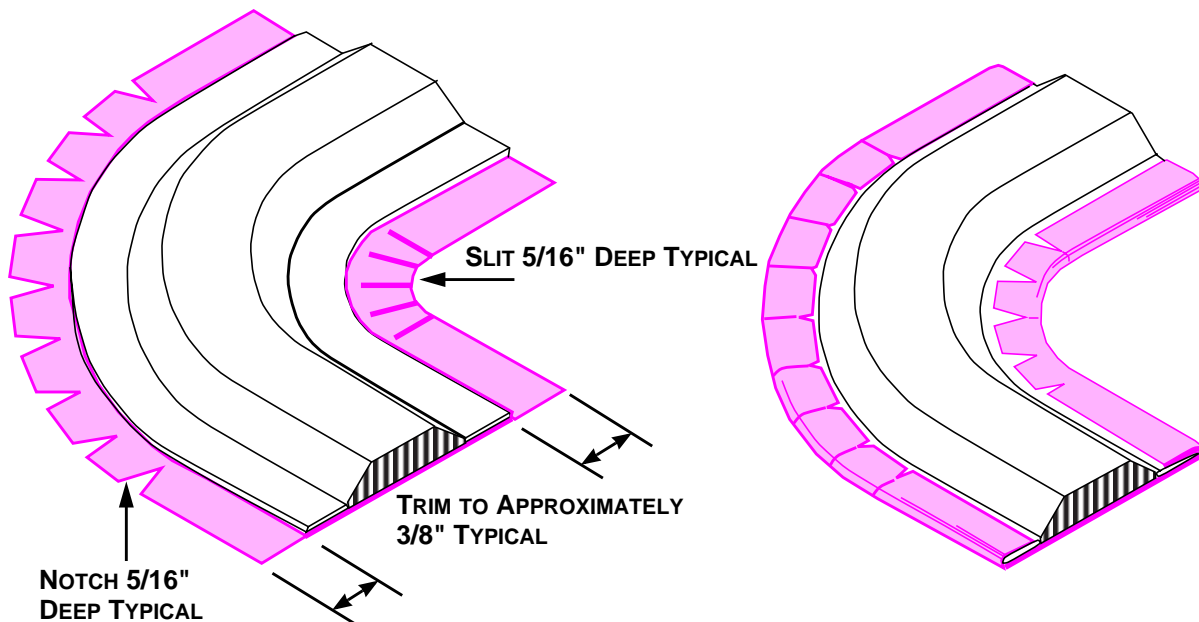

FIGURE 4 - EDGE FOLD-BACK
- Step 1. Trim off excess decorative film leaving sufficient for fold back to the dimensions shown on the drawing, normally approximately 3/8" (see Figure 4).
- Step 2. At corners it will be necessary to notch or slit the film as shown in Figure 4.
- Step 5. Fold the film over and press down firmly (see Figure 4). If the adhesive has dried too long, reactivate it with a heat gun. A heat gun may also be used to assist in forming the film.